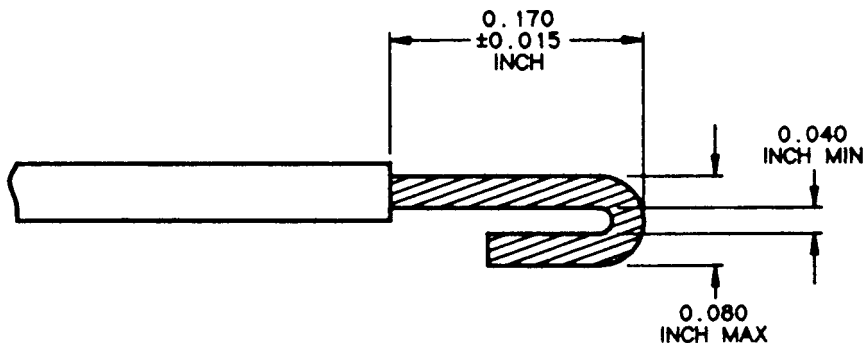

Figure 5-5. Folding Dimensions for LO Potential (Ground) Conductor
6. Fold the LO potential (ground) conductor back in a loop as shown in Figure 5-5.